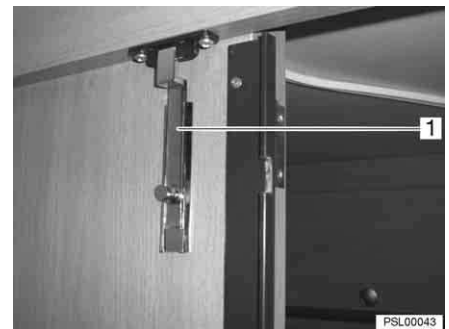

Fig. 69 Locking the concertina wall
- Release the top and bottom locks (Fig. 69,1) on the inside of the concertina wall.